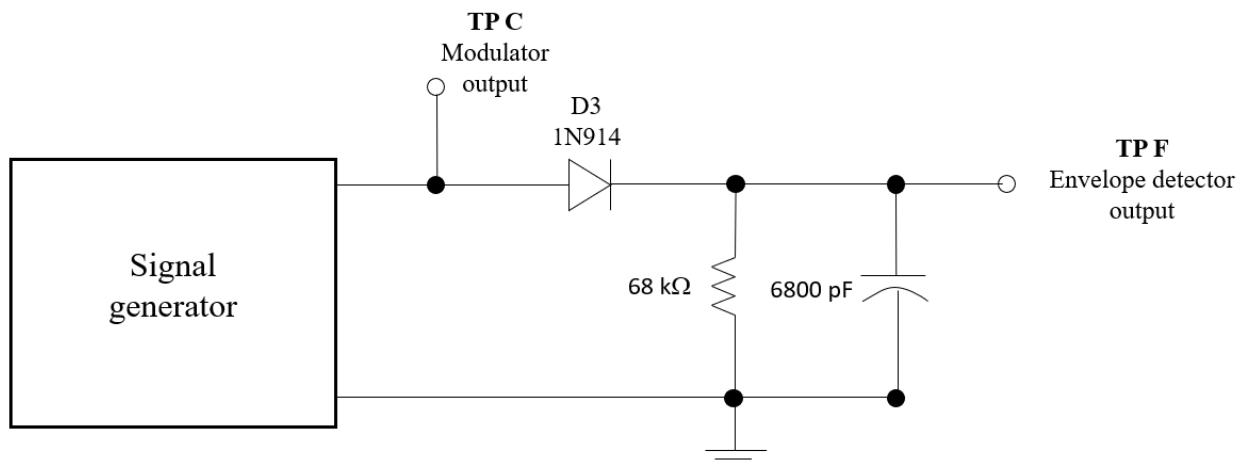

Figure 4.1b: Envelope Detector
Print the graphs for the four conditions in (3) with your "best" time constants. **Include these graphs in your lab report.** Then use the “best” time constant τ_0 for $f_m = 200 \text{ Hz}$ at $m = 0.5$, to determine the designed value of C_9 in the envelope detector circuit of Figure 4.1b. (The time constant is the product of R_{15} and C_9 ; remember to use $R_{15} = 2 \text{ k}\Omega$.) Select a capacitor with a standard value nearest to this designed value within your kit and bring the capacitor to the lab.